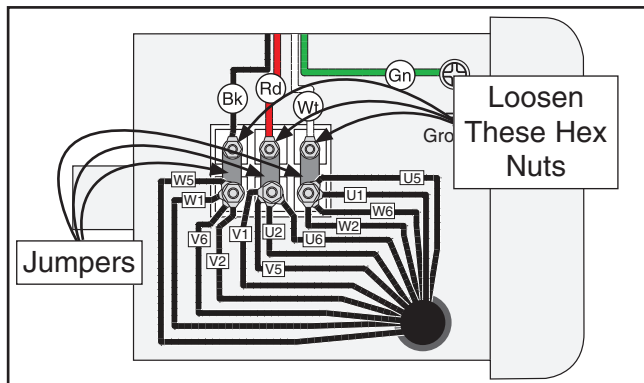

Figure 6. Motor prewired to 220V.
2. Open motor cover, remove motor junction box cover, then loosen hex nuts shown in **Figure 6**.
3. Remove three jumpers (they are stacked together), as indicated in **Figure 6**.